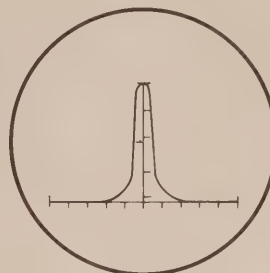

Figure 7
- ( ) Alternately adjust the cores of transformers T2 and T3 for the most symmetrical pip (as shown in Figure 7) while maintaining maximum pip amplitude.